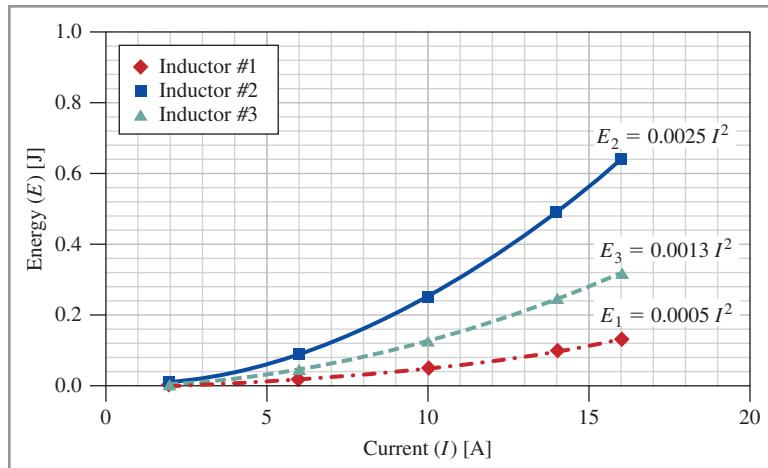

Figure 4-1
- Figures are numbered and captioned *below* the figure (Figure 4-1).